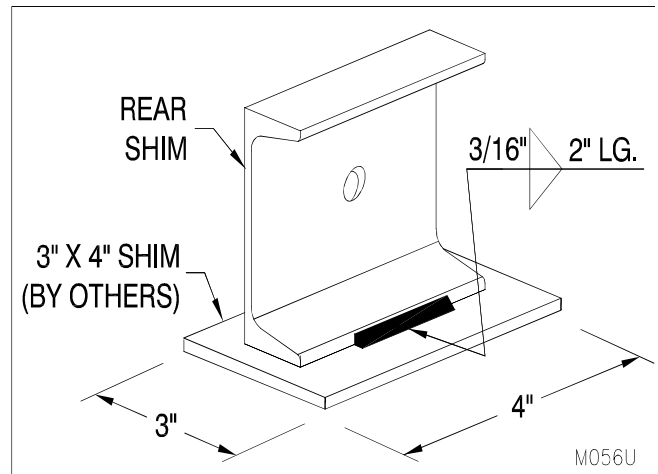

Figure 22: Rear Shim (4" Shim Kit Shown)
- For 3" or 4" shim kits, weld two rear shims (see Table A) to a single shim plate each (3" x 4" x minimum ASTMA-36 or CSA G40.21 supplied by others) as shown in "Figure 22: Rear Shim (4" Shim Kit Shown)" on page 18. This step adds stability to the shims while installing the dock. This step is not required for 1" or 2" shim kits as the blocks are sufficiently stable as supplied.